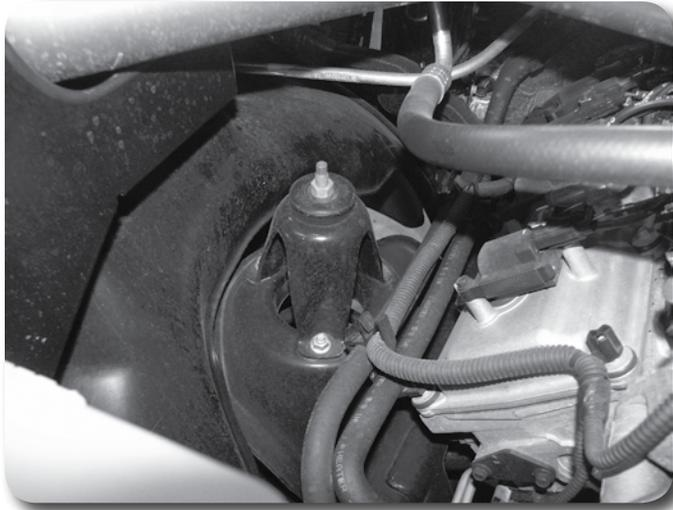

Figure 2
6. Locate and disconnect the factory shock towers from the coil mounts. **Figure 2** There are 3 nuts per side. Save the shock tower. The nuts will not be reused.